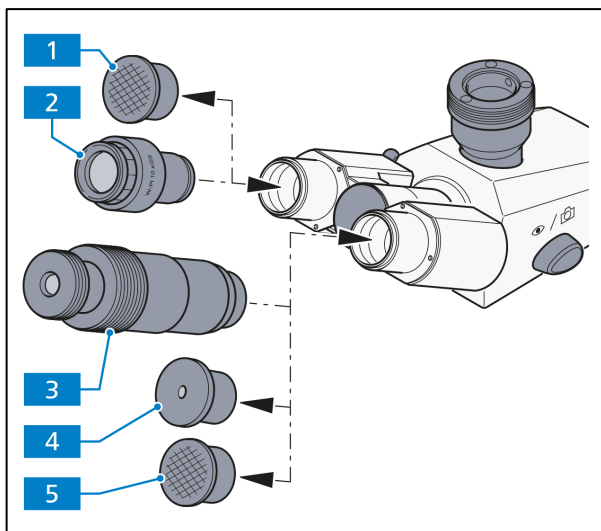

Fig. 3-4 Inserting eyepieces
- Remove both dust cover caps (Fig. 3-4/1 and 5) from the binocular tube.
- Remove both eyepieces (Fig. 3-4/2) from the box and insert them into the binocular tube to the stop.
- Instead of an eyepiece you may insert an auxiliary microscope (Fig. 3-4/3) into one of the binocular eyepiece tubes in order to observe aperture, phase and darkfield diaphragms and to center phase and darkfield diaphragms. These diaphragms can be focused with the adjustable eye lens of the auxiliary microscope.
- The auxiliary microscope (Fig. 3-4/3) or the pinhole diaphragm (Fig. 3-4/4) can be used to observe conoscopic images.